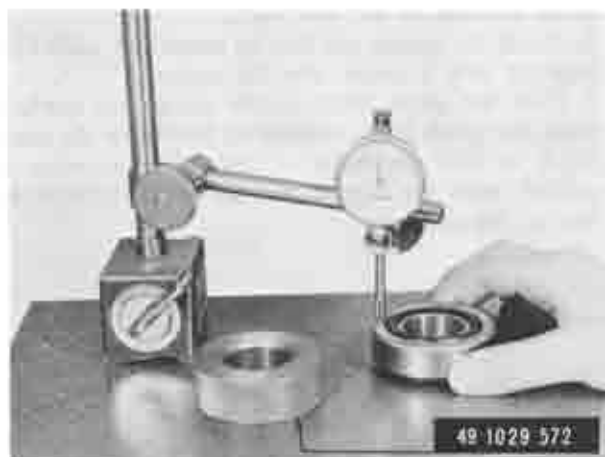

Fig. 9-24 Measuring bearing height.
8. Place the bearing model and the rear pinion bearing on the surface plate facing the inner race downward and compare their heights as shown in Fig. 9-24.